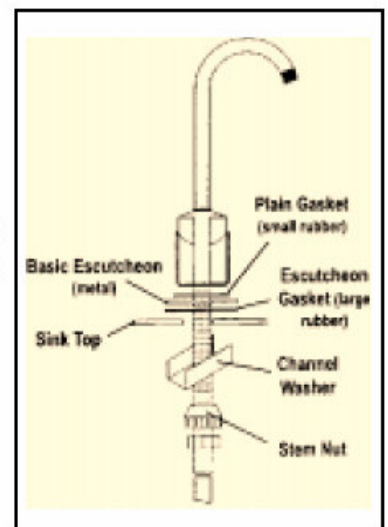

Figure 3
2. Wrap the stem of the faucet with Teflon Tape and install the faucet at the desired point of dispensing as shown in figure 3. **Note:** The channel washer and stem nut should be tightened fully and be flush to the bottom of the sink top to hold the faucet in place.